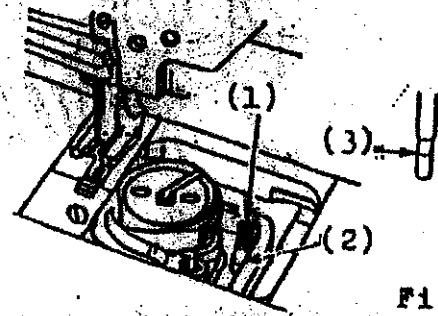

Fig. 5
3. When not operating the machine, the oil adjusting nut (4) should be returned to the position before the oil reservoir was filled. Remove the oil from the reservoir until The gauge reaches the level shown in Fig. 5 arrow (3).